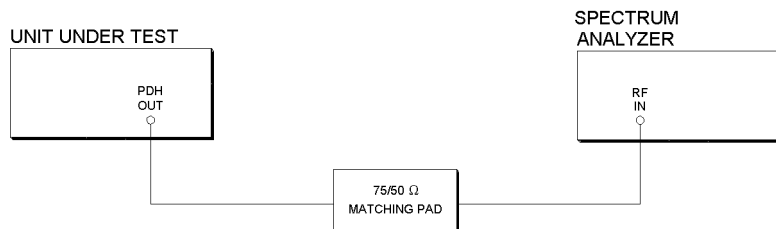

Figure 3-46
4. Connect up the equipment as shown in Figure 3-46.